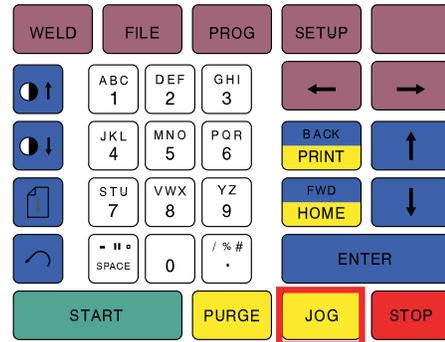
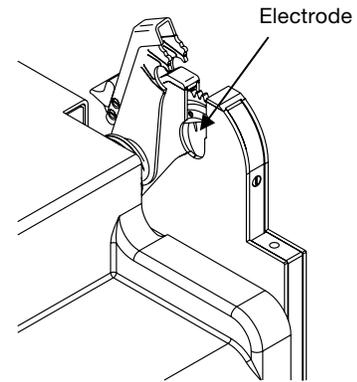

Figure 14 JOG on the Operator Panel
Figure 15 Jogging the Rotor until the Electrode is Accessible
5. With the weld head in the open position, press JOG on the operator panel (see Figure 14) until the tungsten electrode is in the position shown in Figure 15.